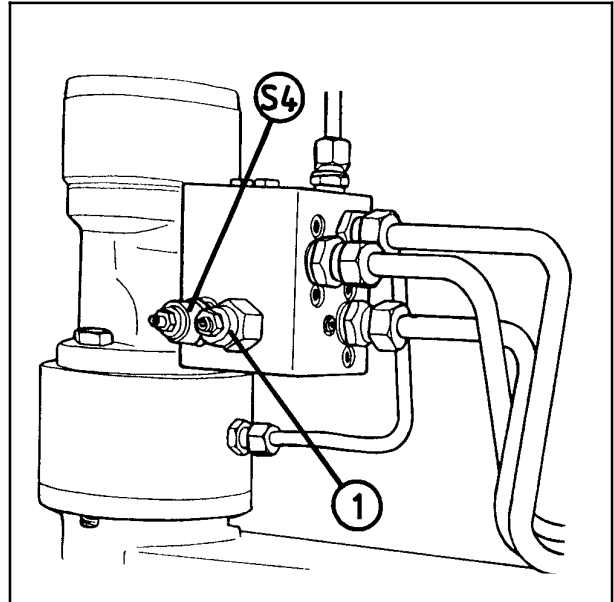

Fig. 14-4
- c) **Safety valve on the plus side.** (S4, fig. 14-4).
- d) **Holding valve.** (Pos. 1, fig. 14-4).